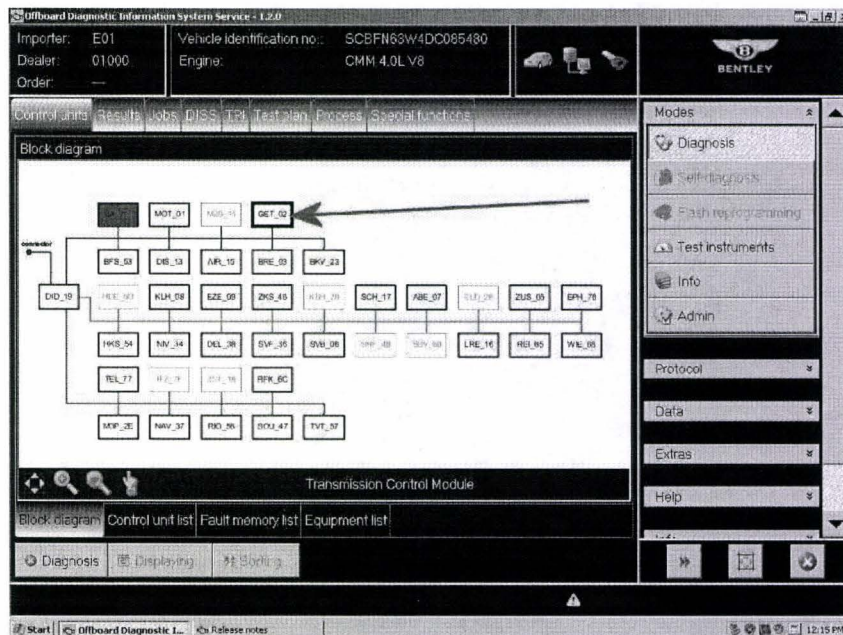

Figure 5
3. Navigate to the Block diagram screen and select Transmission Control Module - GET_02 as shown in Figure 5